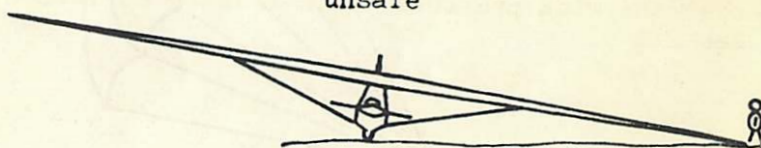

Fig 1
2. Gliders can easily be blown over by the wind. It is therefore important to bear in mind the wind direction and strength. The windward wing-tip must always be held down so that the wind pressure is on the top surface of the wing. See Fig 1.